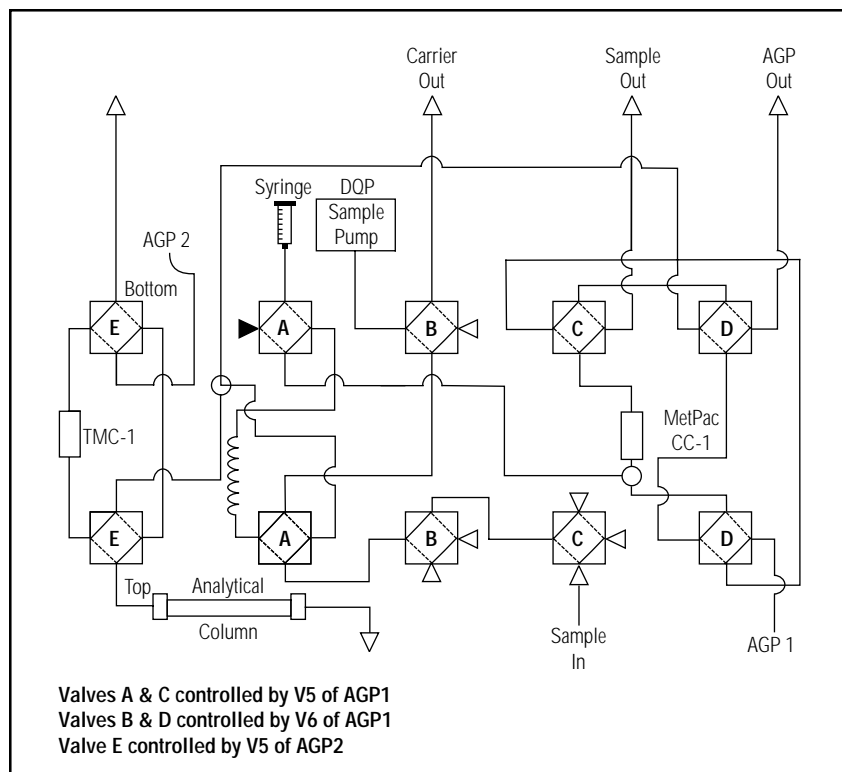

Figure 2. Schematic of chelation ion chromatography system.
Figure 2 shows a detailed pneumatic and hydraulic schematic of the SCM system. From the factory, the SCM is configured to be used for sample pretreatment with an external detector (ICP). For chelation IC applications, configure and plumb the SCM as shown in Figure 2.
Disconnect all the air tubings in the SCM and reconnect as indicated in Figure 2. This system configuration contains two AGPs. The first AGP, designated AGP1, performs the chelation concentration steps. The second AGP, designated AGP2, is the analytical pump used for the chromatography. Be sure that valves A and C are controlled by V5 and that valves B and D are controlled by V6 of AGP1. Valve E is controlled by V5 of AGP2. Connect the air tubing between the two AGPs and the SCM. Confirm that the air tubings are connected to the proper valves (A, B, C, D, and E) as shown in Figure 2. Also confirm that the orange tubing is connected to the tops of valves A and C and the green tubing to the tops of valves B and D. Connect the yellow tubing to the bottom of valves A and C and the blue tubing to the bottom of valves B and C. From AGP2, connect the orange tubing to the top of valve E and the yellow tubing to the bottom of the same valve. Next, connect about 2 ft (65 cm) of air tubing (P/N 030091) to the small barbed fitting on the back of the two AGPs. Insert a barbed tee (P/N 030538) into the end of this tubing. One arm of the tee will go to the nitrogen or argon source (regulator) and the other arm to the eluent regulator or EDM (optional).
1. Confirm that the SCM is configured as shown in Figure 2. Be sure that an NG1 column is installed between AGP1 and valve D of the SCM. Also, confirm that the HPIC-CG2 column is installed between the sample pump and valve B. Install a MetPac CC-1, TMC-1, and IonPac CG5 and CS5 columns as indicated in Figure 2.